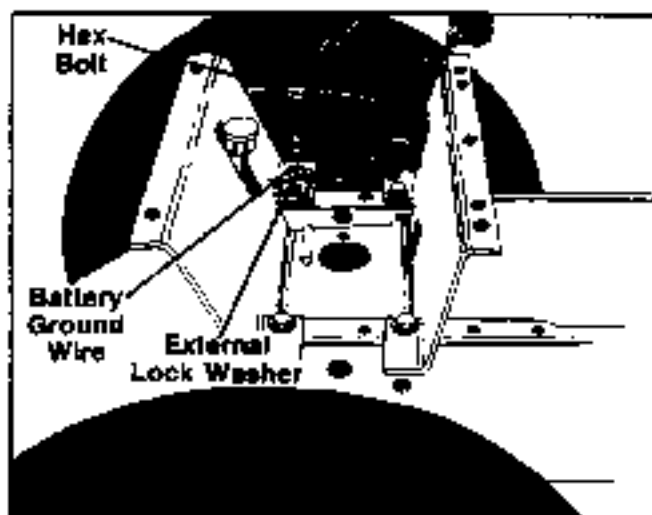

FIGURE 10.
20. Upon reassembly of battery tray (IN STEP 53) make certain the battery ground wire is grounded to battery tray properly with external lock washer. See figure 10.